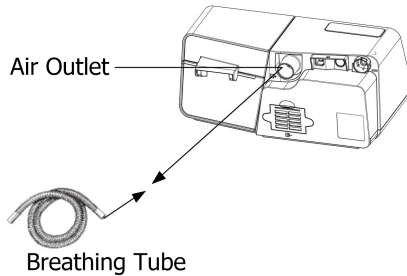

Fig. 12-8
(1) Connect one end of the Breathing Tube to the air outlet of the device, as shown in Fig. 12-8.